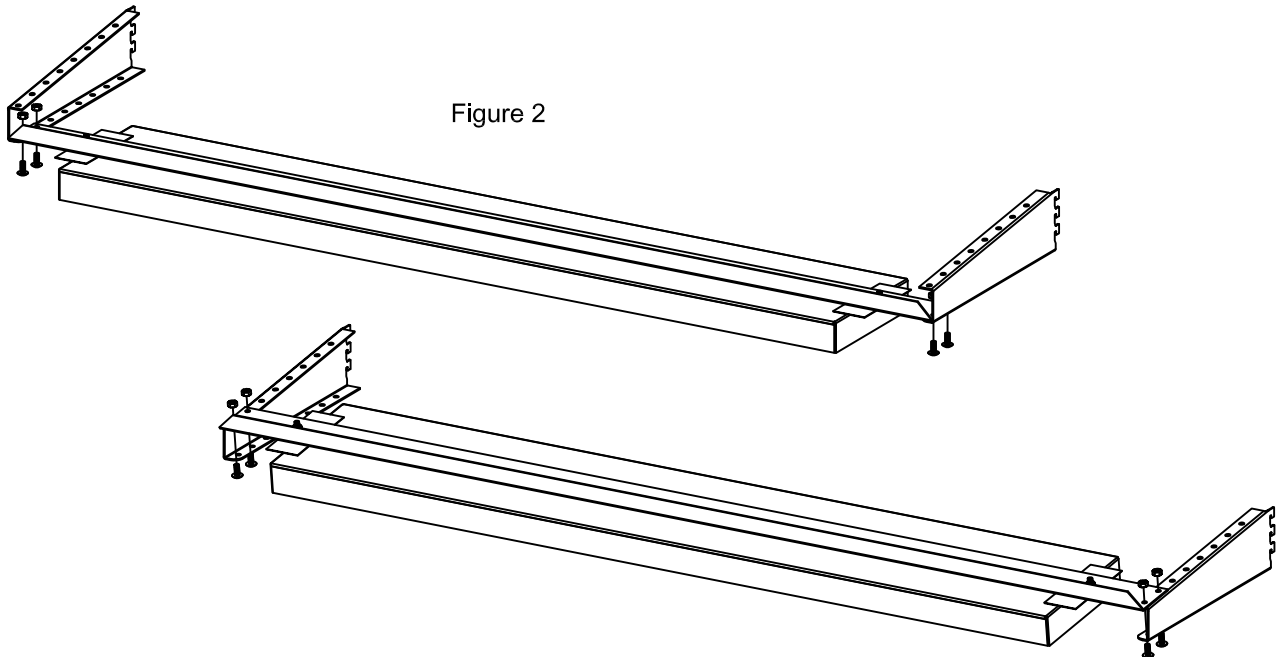

Figure 2
Step 2. Choose desired location for cross brace on hanging brackets. Note: light can be mounted flat on the bottom of the bracket or angled back on the top of the bracket. Once location has been selected, attach brackets to the cross brace assembly with four 1/4"-20x5/8 hex head bolts and four 1/4"-20 nuts as shown in figure 2.